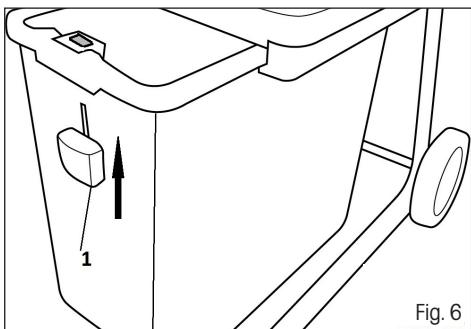

Fig. 6
3. Insert the collection box and lock in place using the safety mechanism. Fig. 6, point 1
- For safety reasons, the handle of the collection box (Fig. 6, point 1) is equipped with a safety lock.